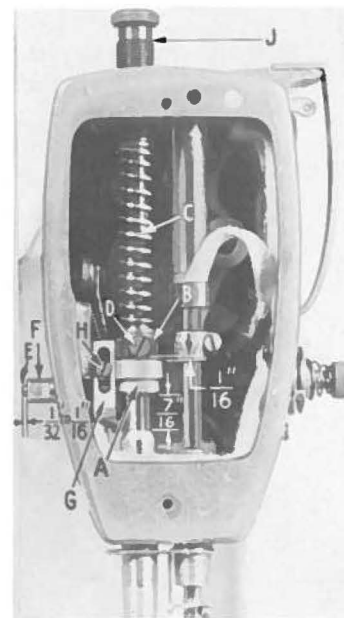

Fig. 14
2. Solenoid plunger pin (E, Fig. 14) must touch tension release pin and the end of solenoid plunger pin must protrude a minimum of 1/32 inch (.79 mm) to a maximum of 1/16 inch (1.59 mm). If adjustment is required move tension post assembly in or out by loosening set screw located under machine arm and moving stop screw (B, Fig. 13) as required.
3. Tension release solenoid is secured to flat of bushing (F, Fig. 14) with a set screw in bracket. Solenoid plunger pin (E) is to have approximately .005 inch (.127 mm) clearance between it and the tension release pin without thread in the tension disc.
4. The manual tension release cam (G, Fig. 14) should be set so that it will not release thread tension when the presser foot is raised for back tacking.